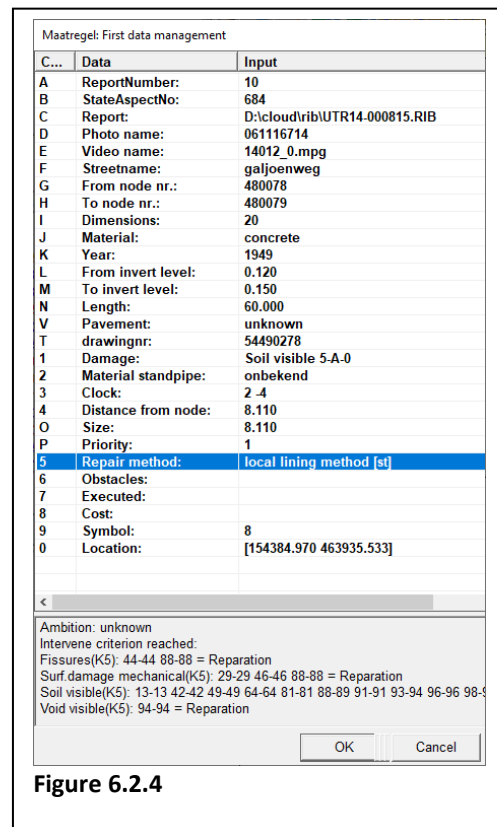

Figure 6.2.4
9. The window according to figure 6.2.4. appears. In this window you register:
When entering the figure 6.2.4 window, it is possible to locate the symbol with a leader along the pipe line, by drawing the leader with